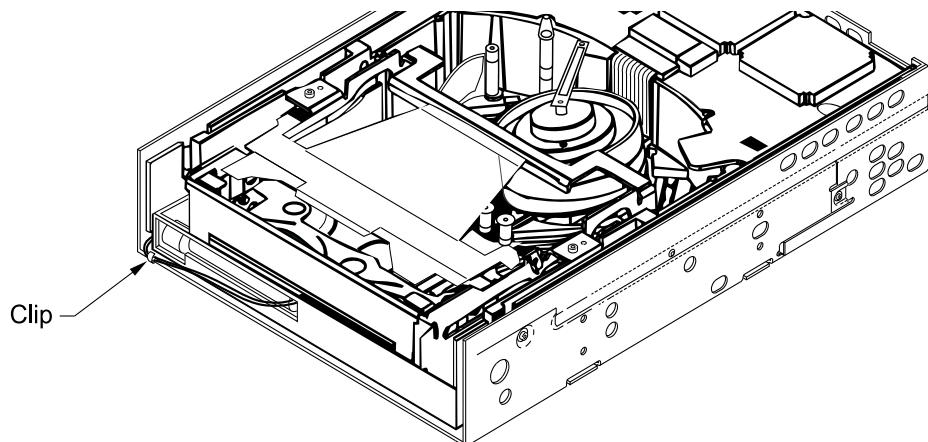

Figure 4 Loosening the cartridge loader wire clip
1. If your tape drive has a wire clip on the inner front panel, use a T-6 screwdriver to loosen the clip (see Figure 4). Remove the wires from the clip.